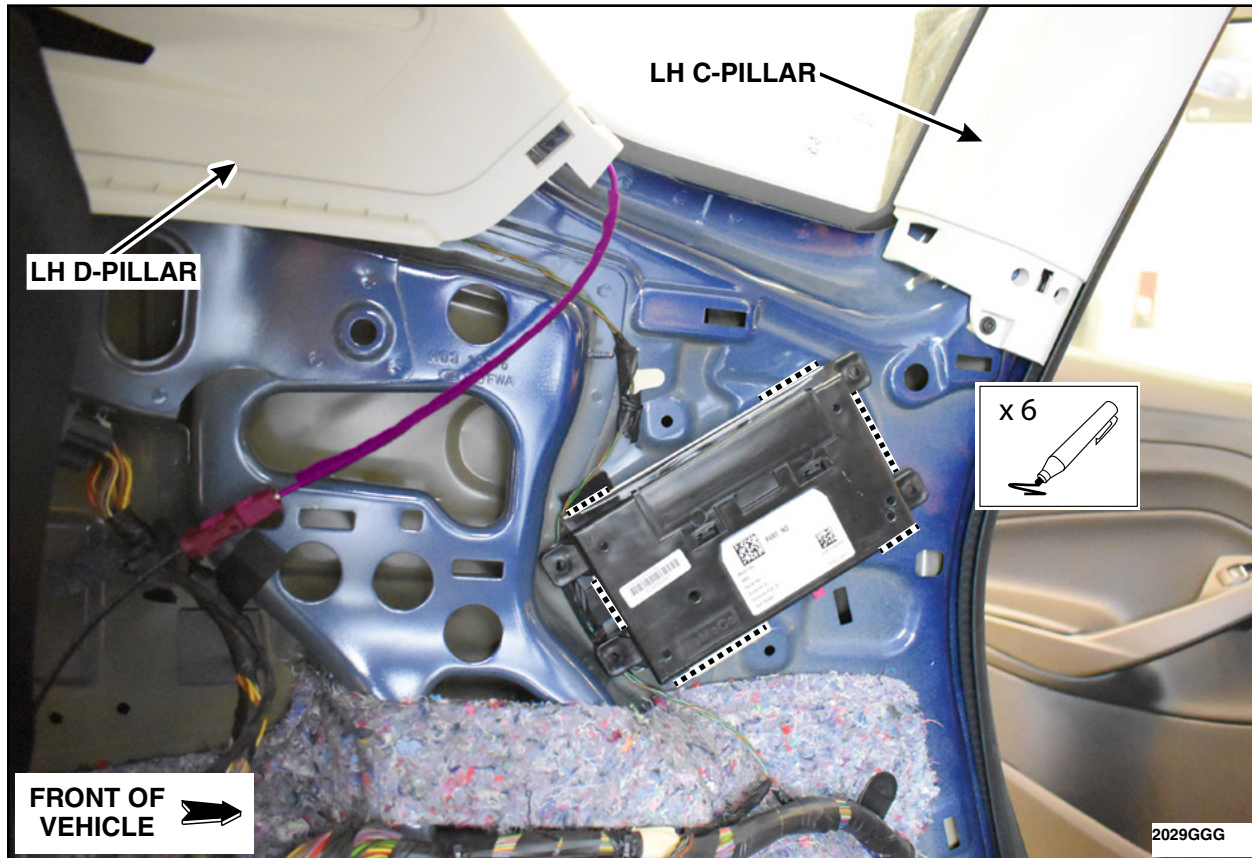

FIGURE 5
7. Temporarily place the 4G TCU in the position shown. Using a marker, mark the edges of the TCU onto the sheet metal of the vehicle. See Figure 5. Remove the TCU from the vehicle and place it on a bench metal side up.